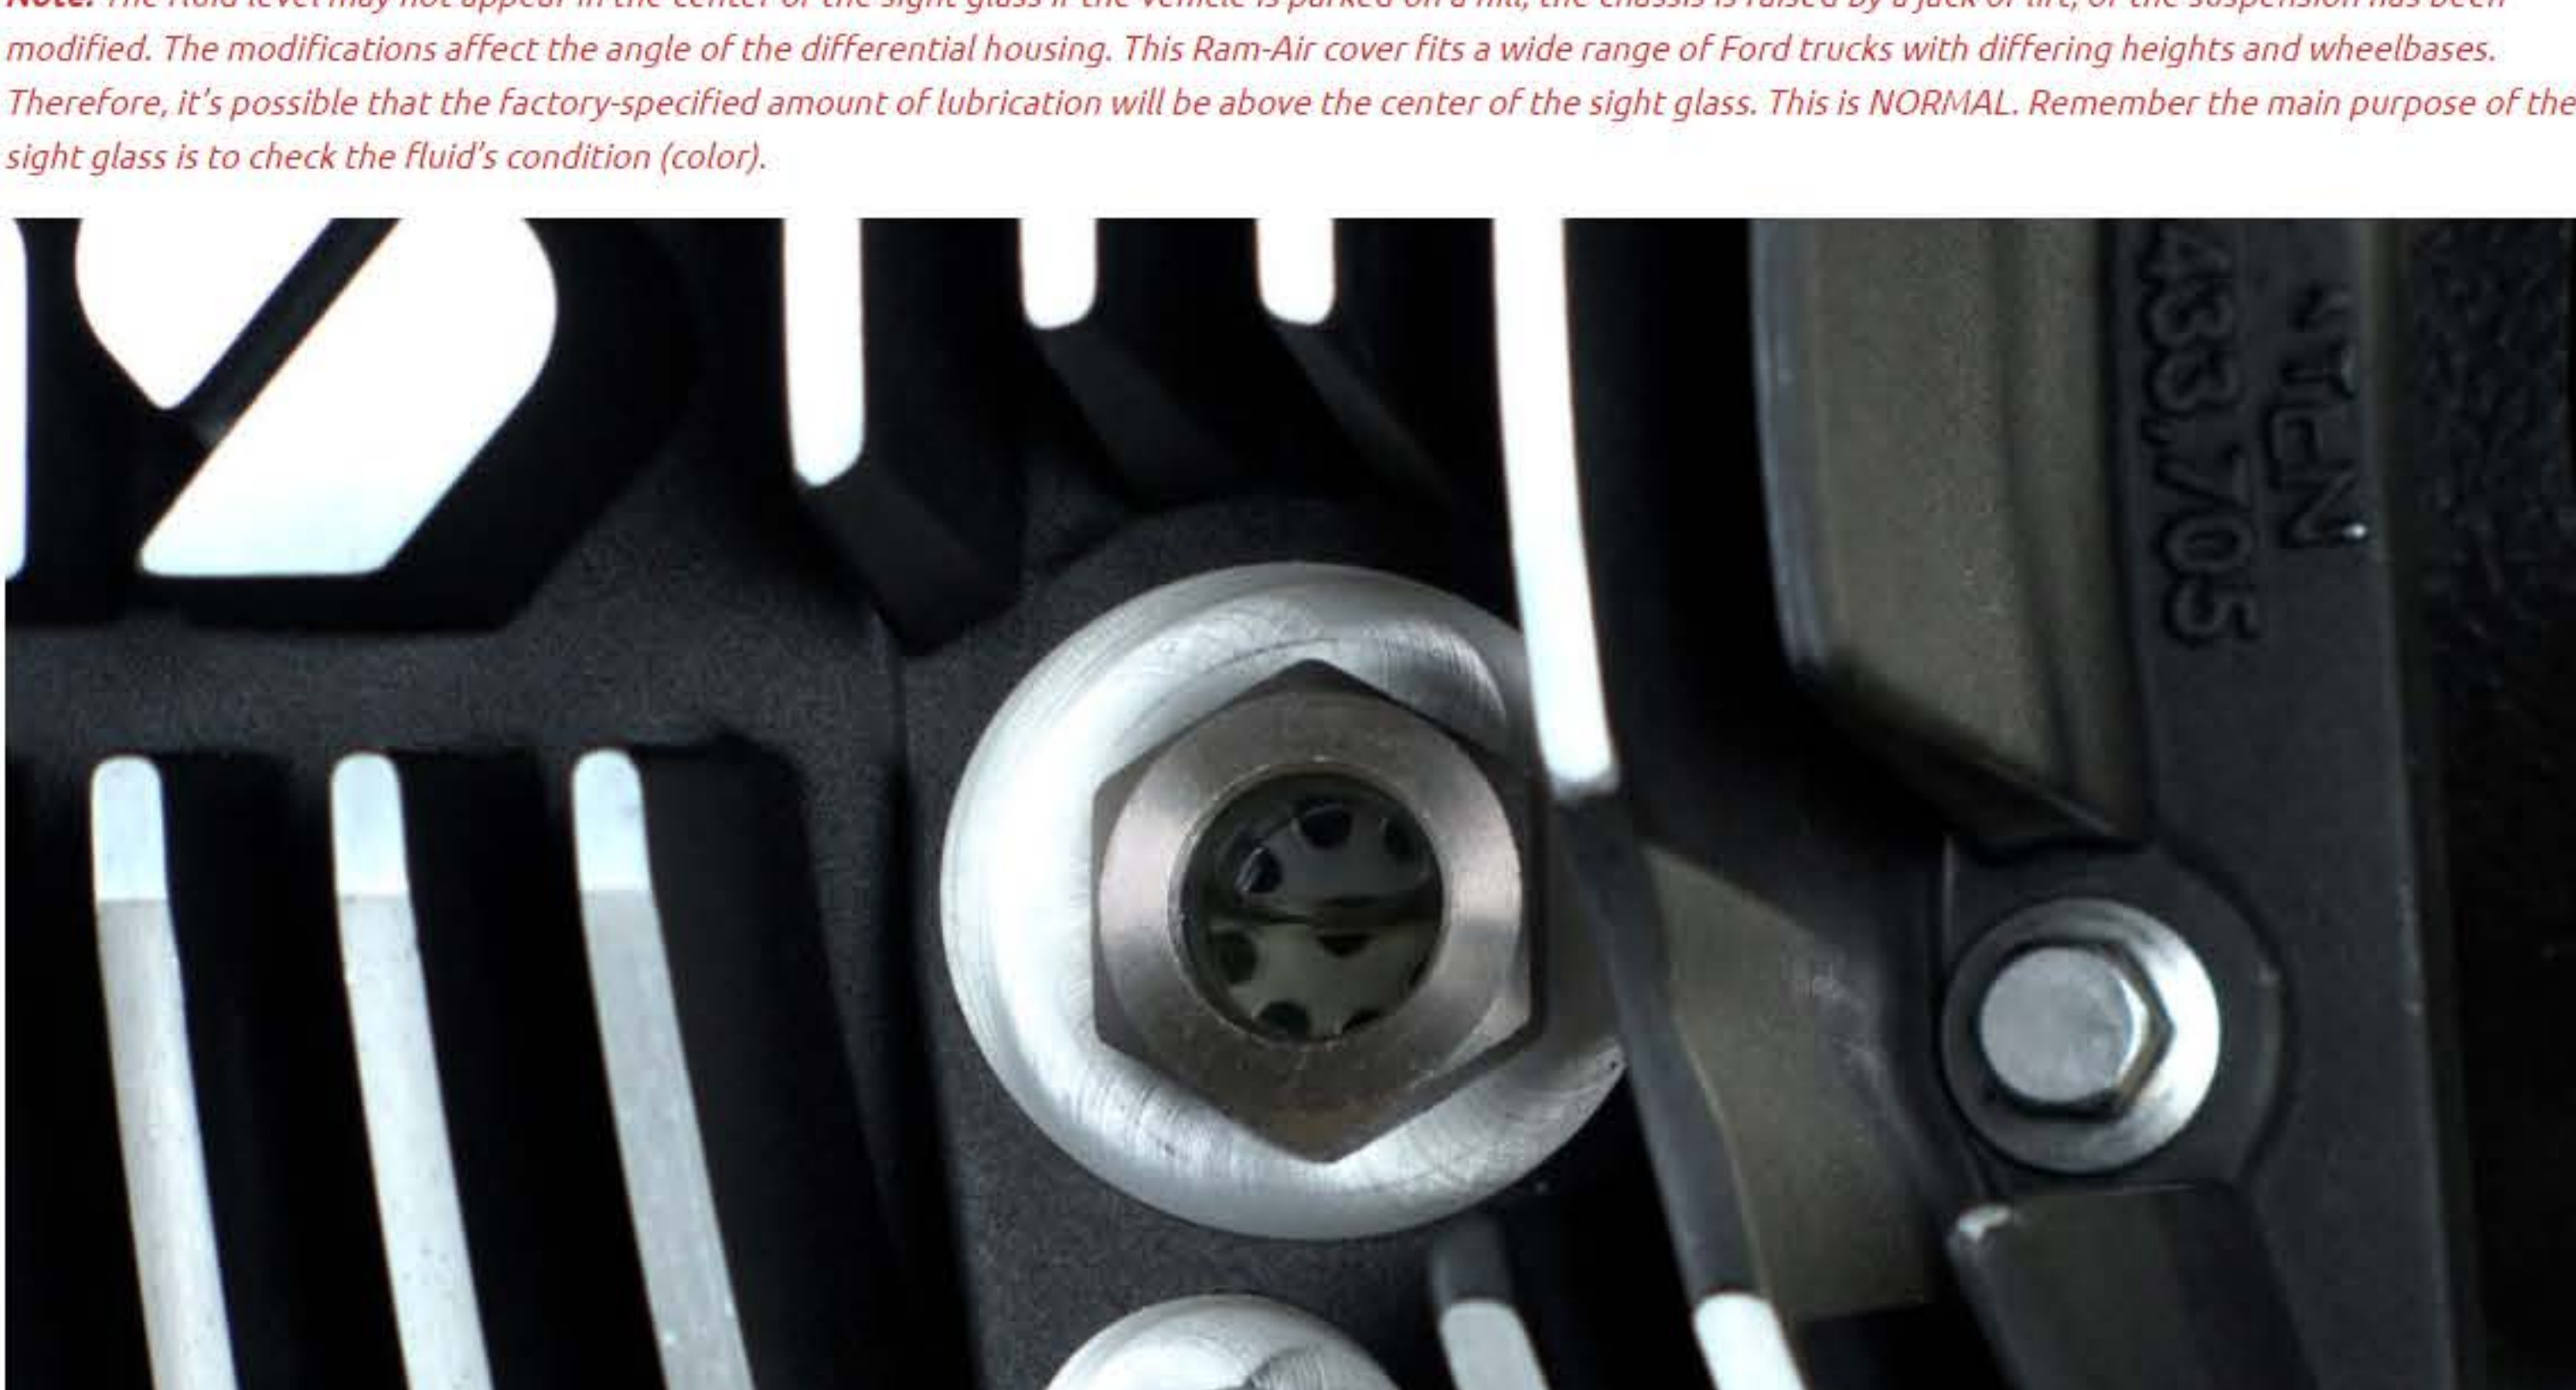

Figure 8
8. Fill the differential housing with the manufacturer's specified amount and type of lubricant (refer to your vehicle's owner's manual) using a funnel or the new convenient AMSOIL Easy Packs. (See figure seven.) The fluid level should be at the center of the sight glass when the vehicle is parked on level ground. (See figure 8.)